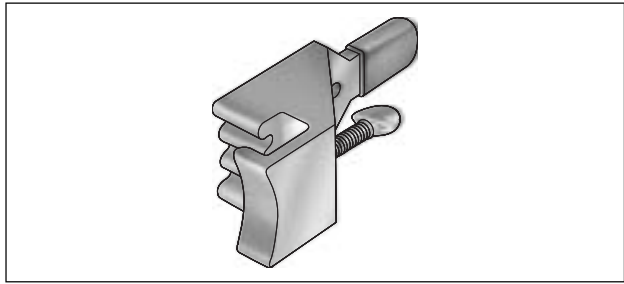
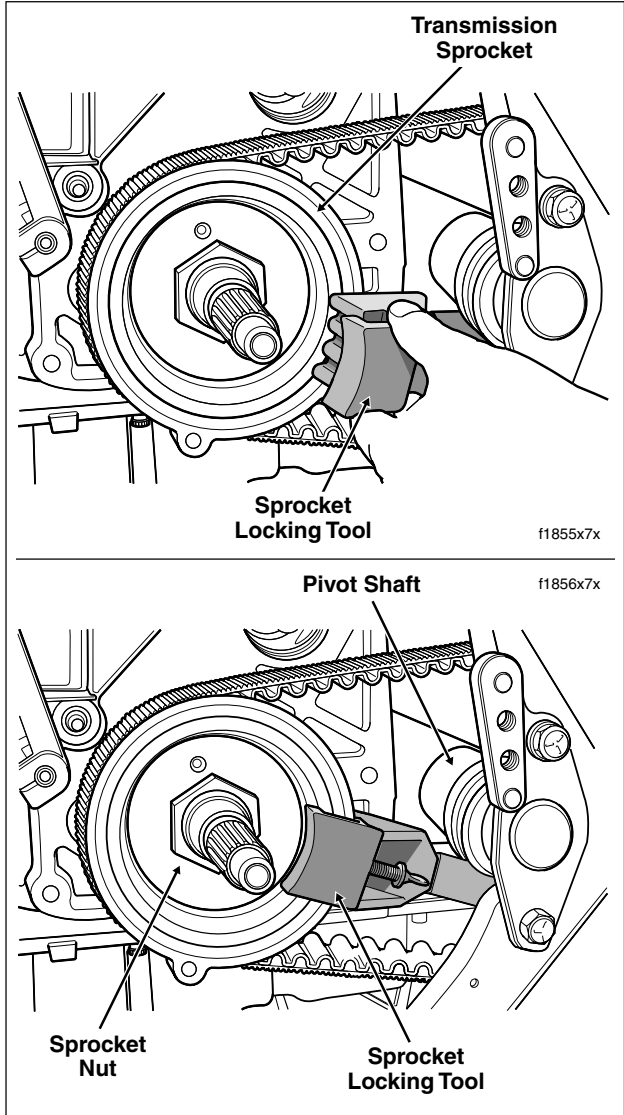

Figure 7-33. Final Drive Sprocket Locking Tool (Part No. HD-41184)
Figure 7-34. Install Final Drive Sprocket Locking Tool
7. Lock transmission sprocket with FINAL DRIVE SPROCKET LOCKING TOOL, Part No. HD-41184. See Figure 7-33. Insert handle of tool below pivot shaft inboard of bottom frame tube and attach to sprocket. Snug thumbscrew to lock position of tool on sprocket. See Figure 7-34.